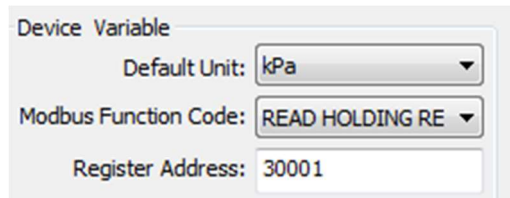

Figure 5.65 Register address selection
1. Select "Detailed Design"-"Sensor"-> drop-down box corresponding to "Register address", as shown in Figure 5.65